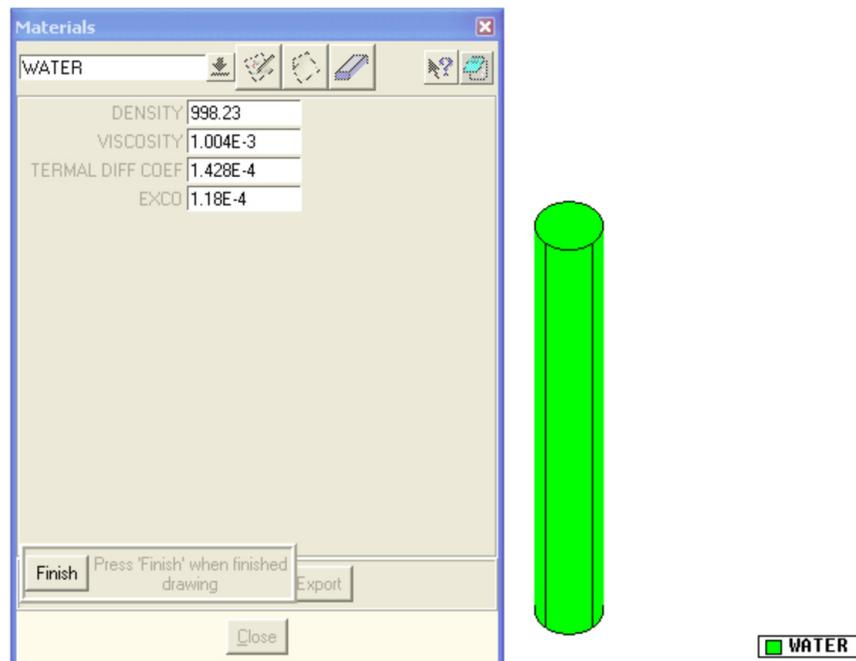

Figure 11: A representation of the volumes and their material assignment in the model
4. To verify that the right material has been assigned to the right volume, while the **Materials** dialog box is still open, click on **Draw** and select **All materials** to see the current material assignment state of the model as shown in Figure 11.